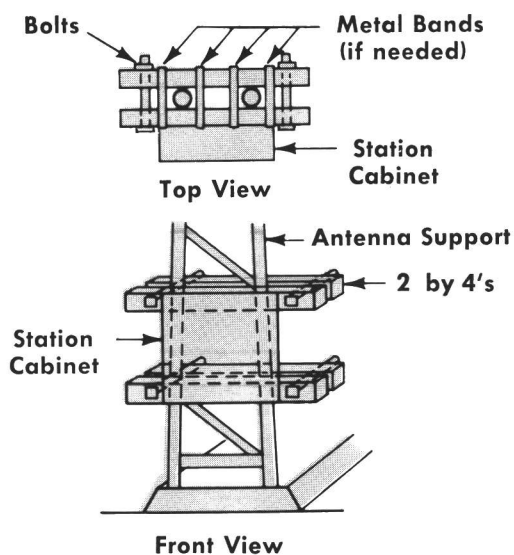

FIGURE 6—INSTALLATION TO ANTENNA SUPPORT
1. Mount 2" by 4" supports on antenna support as shown in Figure 6. Bolt securely and band tightly together to prevent slippage and vibration.